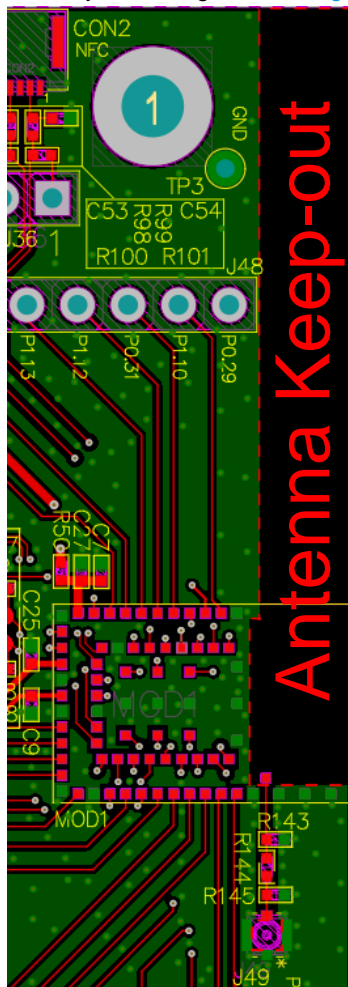

Figure 14: PCB trace Antenna keep-out area (shown in red), corner of the BL5340 development board for the 453-00052 module.
- The BL5340 development board (453-00052-K1) has the 453-00052 module on the edge of the board (not in the corner). The antenna keep-out area is defined by the BL5340 development board which was used for module development and antenna performance evaluation is shown in Figure 14, where the antenna keep-out area is ~4.7 mm wide, ~39.17 mm long; with PCB dielectric (no copper) height ~1 mm sitting under the 453-00052 PCB trace antenna.
- Host PCB land pattern and antenna keep-out for the BL5340 applies when the 453-00052 is placed in the edge of the host PCB preferably in the edge center. Figure 14 shows an example.